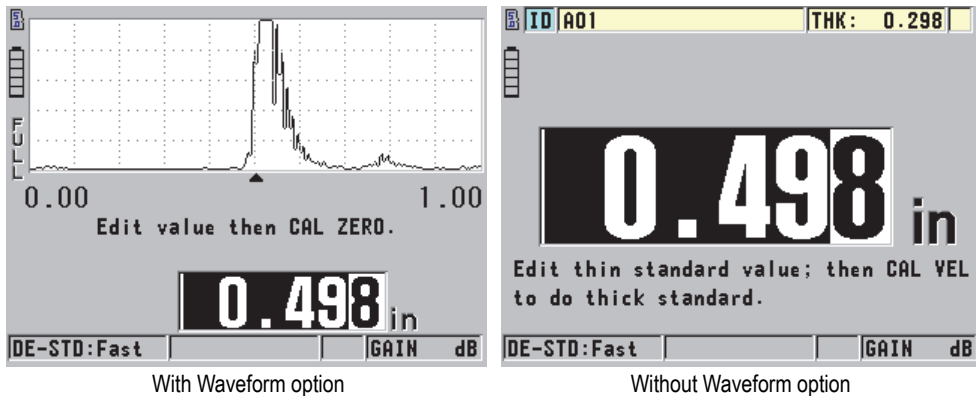

Figure 5-5 Performing the sound velocity calibration on a five-step test block
1. To perform the material sound velocity calibration using an instrument with or without the Waveform software option (see Figure 5-5 on page 58):